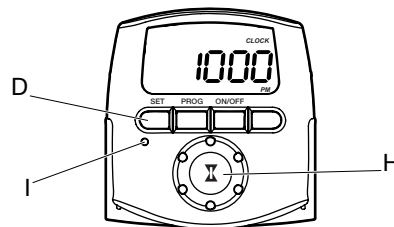

FIG 2. Setting the Time
2. When the display shows 12:00 AM, the timer is ready for initial set up. See FIG. 2. If 12:00 AM does not display, perform a Factory Reset or see the Troubleshooting section.
1. Turn the selector knob (H) to select the correct hour of the day. Press **SET** (D). Repeat to select the minute of the day. See FIG. 2.